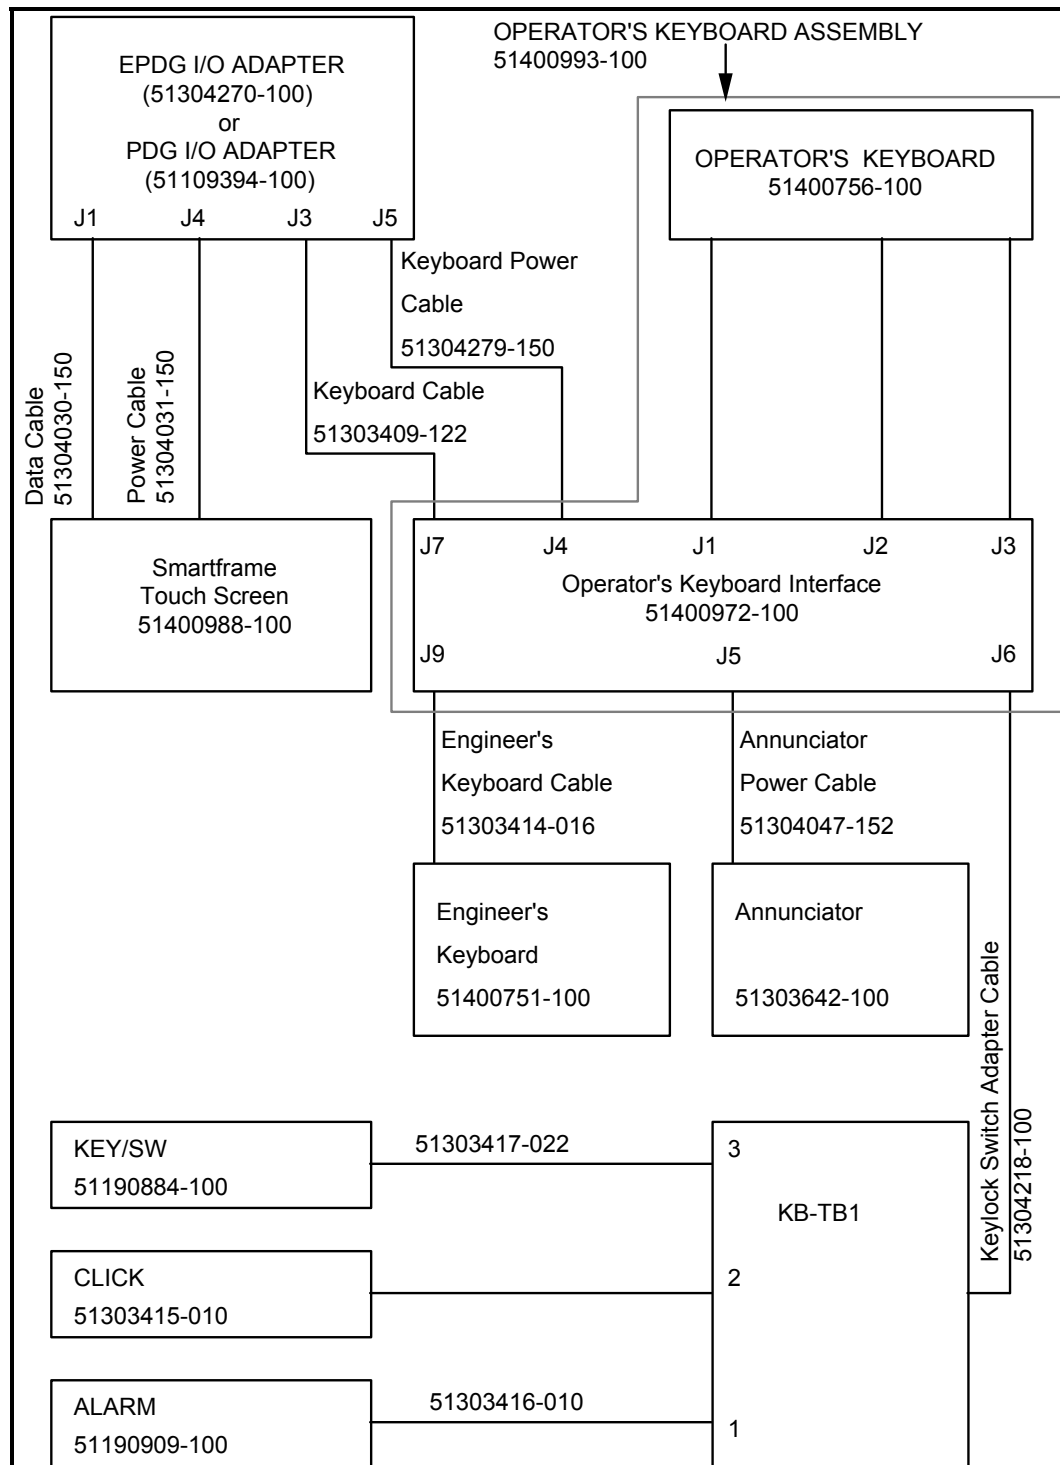

Figure 8-2 — Low Power Keyboard Cabling (Field Spare Kit - 51195191)
2. Low Power CMOS Operator's Keyboard. See Figures 8-2 and 8-3.